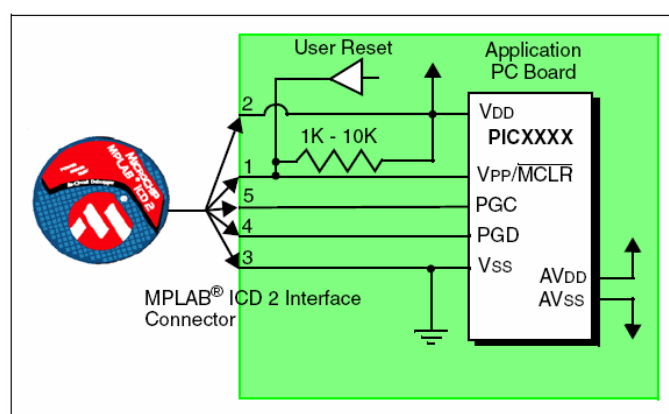

Figure 0-2 Extract from ICD2 manual (DS51331B-P11)
- 3.** Much attention has been paid to the in-circuit programming voltage level for 18LF4550 at $V_{dd}=3.3V$. Tests have been made for every board to ensure proper ICD2 debug and program before shipment. ICD2 header (J3) and a reset circuit comprises of R7, D8, and SW1 have been included in reference to specification defined by the ICD2 manual (Figure 0-2). Please refer to schematic of PIC18-LF4550-STK1 for details.